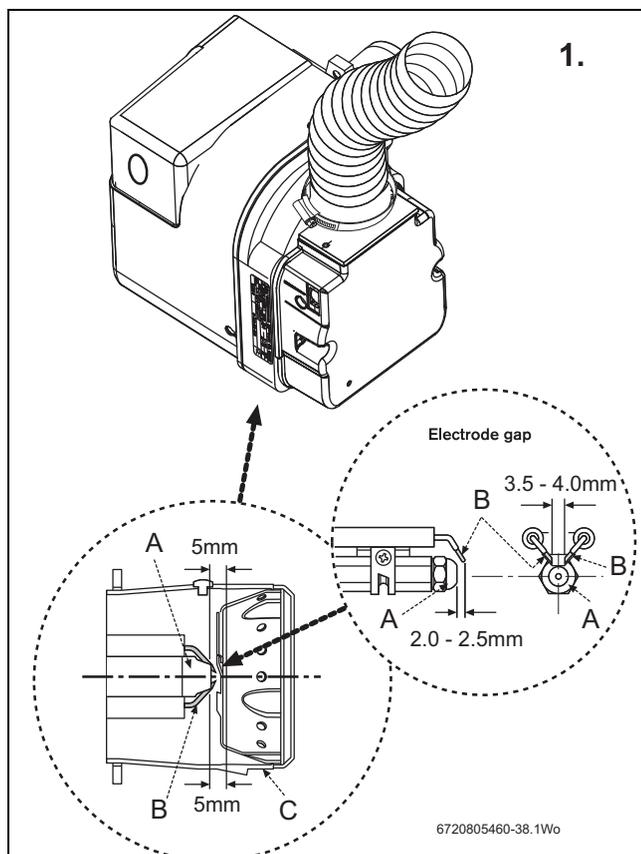
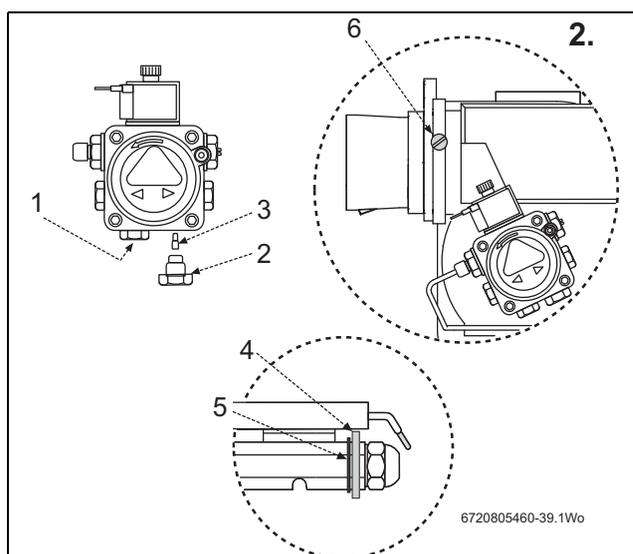

Fig. 35 Nozzle and electrode alignment
Fig. 36
1. Check that the nozzle (A) and the electrode (B) alignment settings are correct as shown in figure 35.
- ▶ Ensure that the nozzle (A) is aligned centrally within the combustion head (C).
- ▶ Before removing or fitting a nozzle (A), loosen screw (6 figure 36) and move the electrodes (B) forward. After refitting check that the electrode gaps are correct, as shown in figure 35.